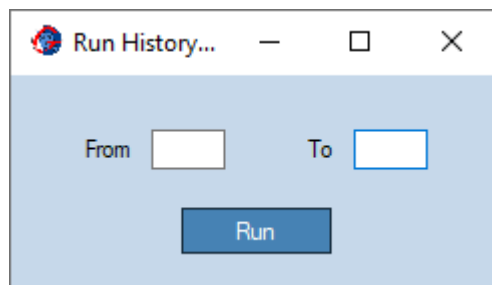

Figure 6: *Geo Meshing History – Run, define range dialog window.*
- **Run:** This option runs a series of events defined by a range. Figure 6 shows the dialog windows for defining the range. *From* and *To* are the numbers shown in the Geo Meshing v3.1 history windows. Before using this option, select an event in the history window.